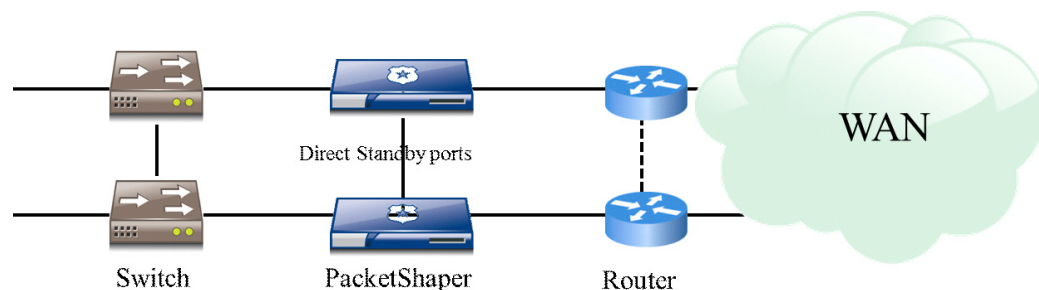

Figure 1-1 Basic failover topology or load sharing topology through Cisco Express Forwarding
- ❑ Basic failover topology or load-sharing topology (See Figure 1-1.)